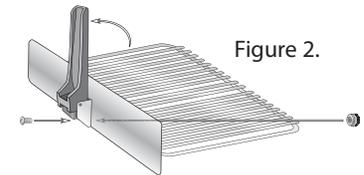

Figure 2.
Step 5: Rotate handle and food rack cover towards you together as a single unit (Figure 2).